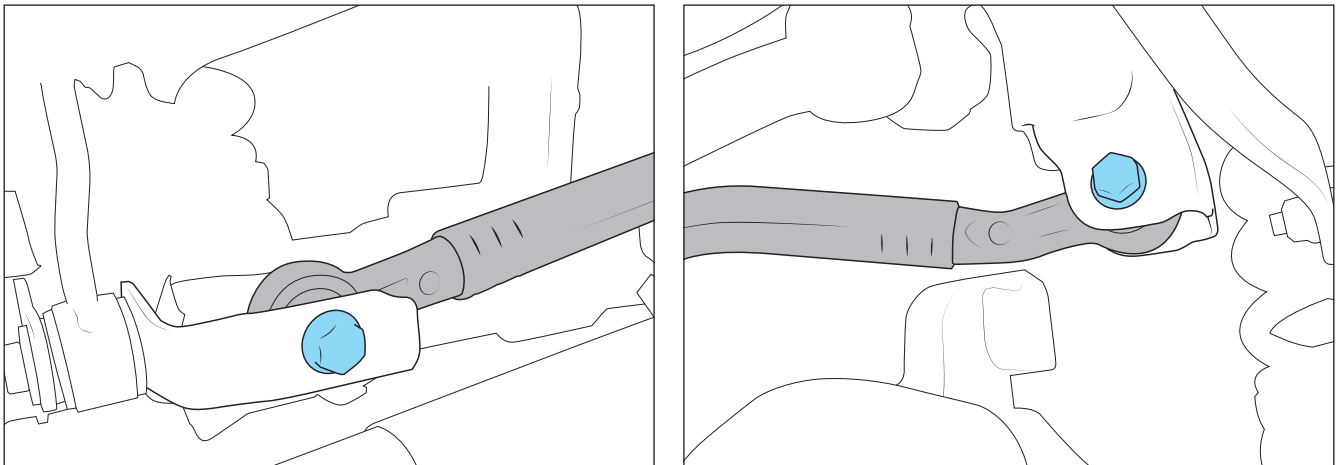

Figure 12
4. Loosen but DO NOT REMOVE track bar bolts (fig. 12).